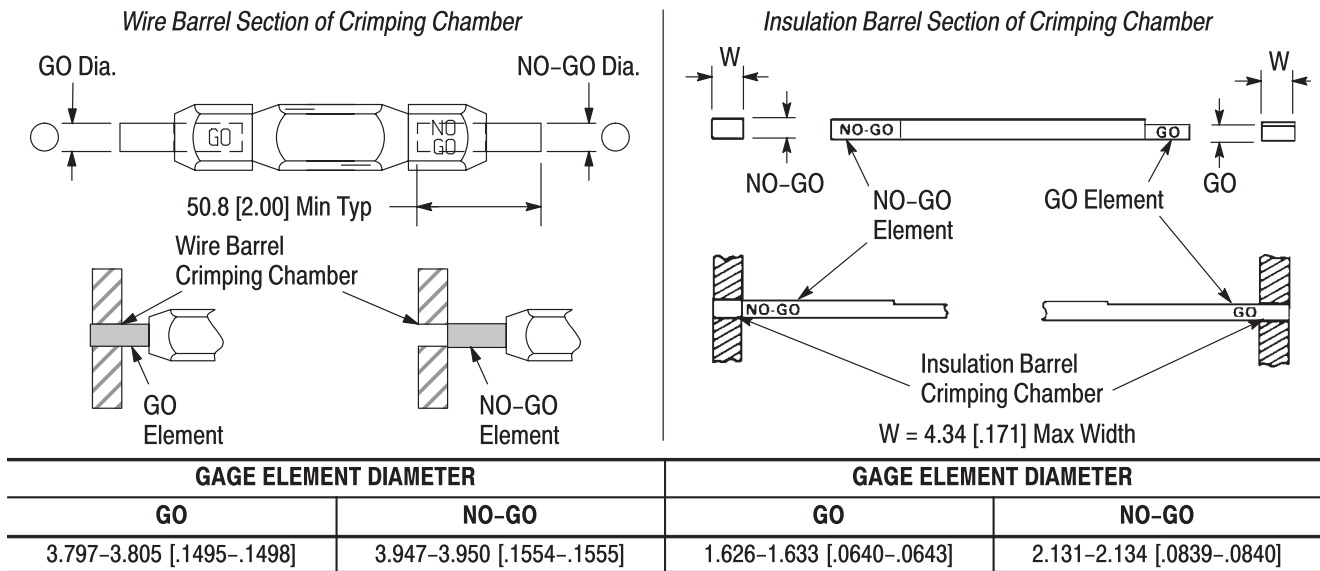

Figure 4
This inspection requires the use of plug gages conforming to the dimensions provided in Figure 4.
3. Align the GO element with the appropriate section of the crimping chamber. Push element straight into the crimping chamber without using force. The GO element must pass completely through the crimping chamber as shown in Figure 4.
4. Align the NO-GO element and try to insert it straight into the same section of the crimping chamber. The NO-GO element may start entry, but must not pass completely through the crimping chamber. See Figure 4.
1. Select a terminal and wire (maximum size) for the tool. See Figure 4.
- Changed gage dimension in Figure 4